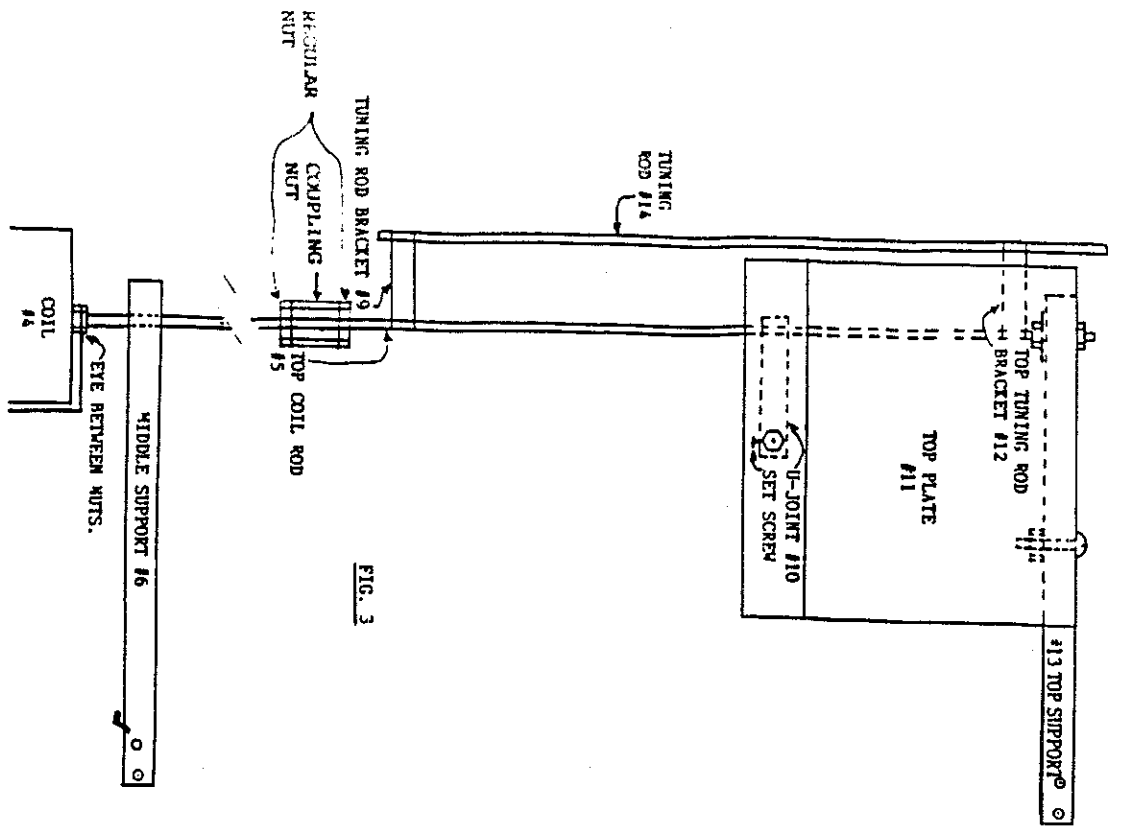

FIG. 3
6. The TOP COIL ROD #5 comes in two sections. See page 7 fig. 3. Each section is 30 inches long. Screw a regular nut on one end of #5 on each section. Screw the coupling nut to the same end of each section so each section of #5 is about 1/2 way into the coupling nut. Tighten the regular nuts *against the coupling nut on each side.*
10. Slide TUNING ROD BRACKET #9 onto TOP COIL ROD #5, leave it loose. See Fig. 3.
11. Attach the TOP PLATE #11 to TOP SUPPORT #13. Use a 1/4" x 1 1/2" Bolt with a nut, but do not secure. See Fig. 3.
13. Slide the TOP COIL ROD #5 through the U-JOINT #10. If needed you can loosen the set screw, but re-tighten once everything is in place. See Fig. 3
14. Slide the second TUNING ROD BRACKET #12 on to the TOP COIL ROD #5. See Fig. 3.
15. Thread a 1/4" nut all the way down on the top of TOP COIL SUPPORT #5. Then add a flat washer from the hardware packet, then slide into the hole attaching the TOP SUPPORT #13 and TOP PLATE #11. Secure with a second nut, then secure the 1 1/2" Bolt previously installed. See. Fig. 3.